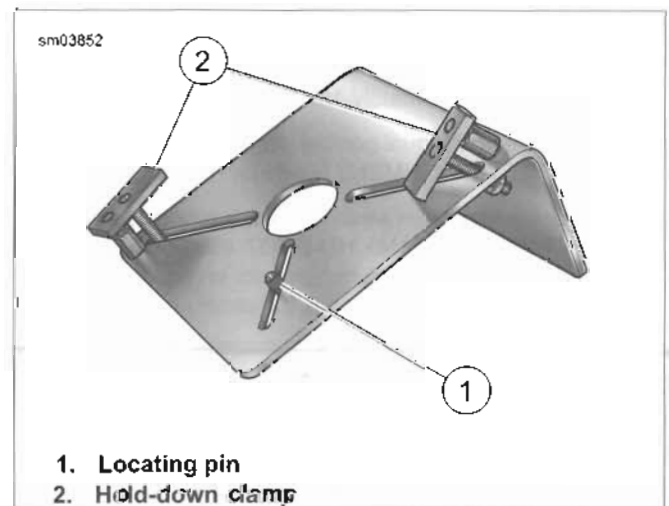

Figure 3-138. Flywheel Holding Fixture
1. See Figure 3-138. Install brass jaws or shop towels around teeth of vise to prevent damage to tool. Obtain FLYWHEEL SUPPORT FIXTURE (Part No. HD-44358). Clamp tool in vise with the round hole topside.